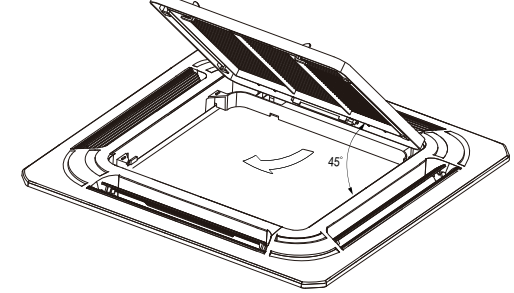

Fig. 5-9
- Slide two grid switches towards the middle at the same time, and then pull them up. (Refer to Fig. 5-9)